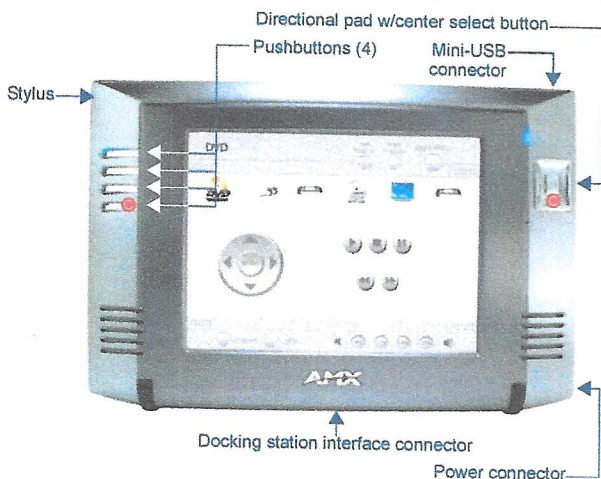

FIG. 1 MVP-7500 Touch Panel components
1. Press down and hold both the bottom, left pushbutton and down on the directional pad (indicated in FIG. 1) simultaneously for 3-5 seconds. This opens the Setup page.